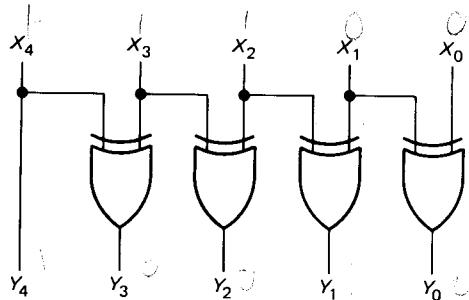

Fig. 3-36 Binary-to-Gray-code converter.
- 3-27.** Figure 3-36 shows a binary-to-Gray-code converter. (Gray code is a special code used in analog-to-digital conversions.) The input word is $X_4X_3 \dots X_0$, and the output word is $Y_4Y_3 \dots Y_0$. What does the output word equal for each of these inputs?